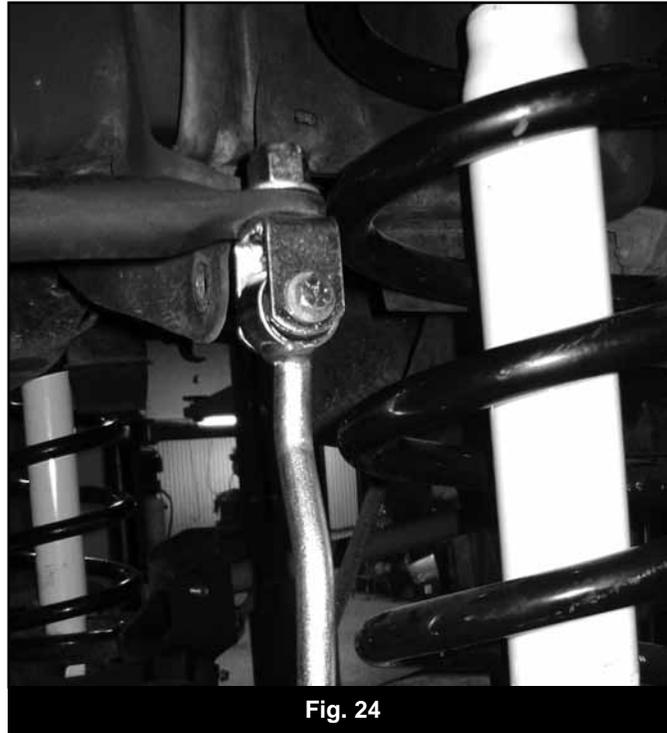

Fig. 24
57. Attach the other end of the sway bar link to the axle with 9/16" hardware. Run the bolts from inside to the outside of the vehicle. (Fig 24) It may be necessary to slightly clearance the holes to accept the 9/16" hardware. 09 and newer models will have left over hardware from bolt pack #783.
68. Attach the other end of the sway bar link to the new axle bracket with 9/16" hardware. Run the bolts from inside to the outside of the vehicle. (See above Fig 24) Note: Depending on model year, there will be either an extra 14mm or 16mm bolt leftover from bolt pack #783.